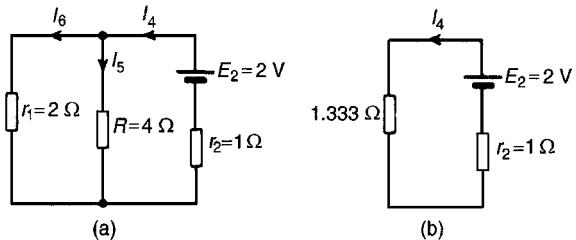
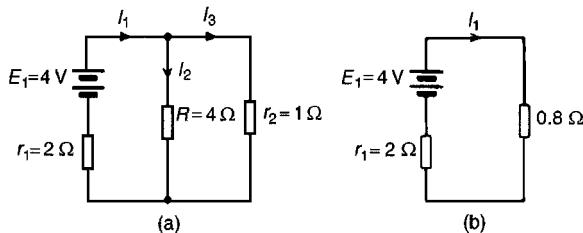
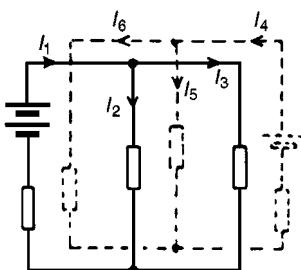

Figure 13.17
Figure 13.16
Figure 13.18
- 3 Redraw the original circuit with source E_1 removed, being replaced by r_1 only, as shown in Fig. 13.17(a)
- 1 Redraw the original circuit with source E_2 removed, being replaced by r_2 only, as shown in Fig. 13.16(a)
- 2 Label the currents in each branch and their directions as shown in Fig. 13.16(a) and determine their values. (Note that the choice of current directions depends on the battery polarity, which, by convention is taken as flowing from the positive battery terminal as shown)
From the equivalent circuit of Fig. 13.16(b),
From Fig. 13.16(a),
- 4 Label the currents in each branch and their directions as shown in Fig. 13.17(a) and determine their values.
From the equivalent circuit of Fig. 13.17(b)
From Fig. 13.17(a),
- 5 Superimpose Fig. 13.17(a) on to Fig. 13.16(a) as shown in Fig. 13.18